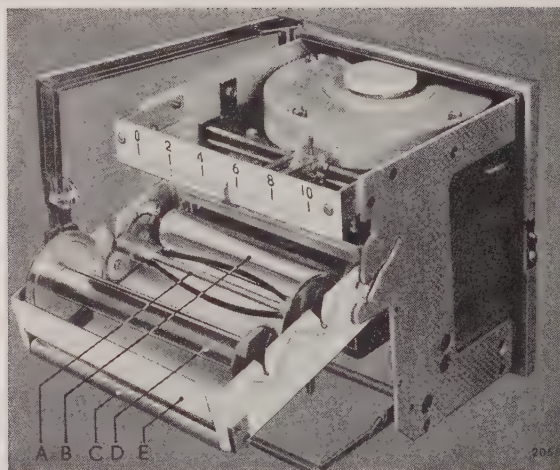

Fig. 22. Cassette placed in the slots of the frame in reverse position
1. Place the cassette (29) in reverse position in the slots of the frame, see Fig. 22.